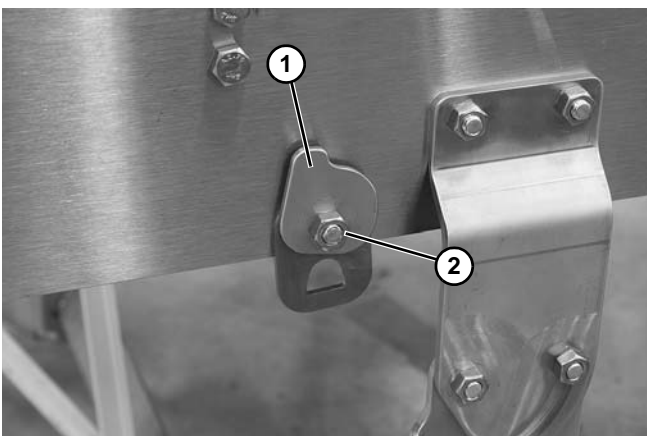

Figure 25
3. Install return clip (Figure 25, item 1) and loosely secure with nut (Figure 25, item 2).